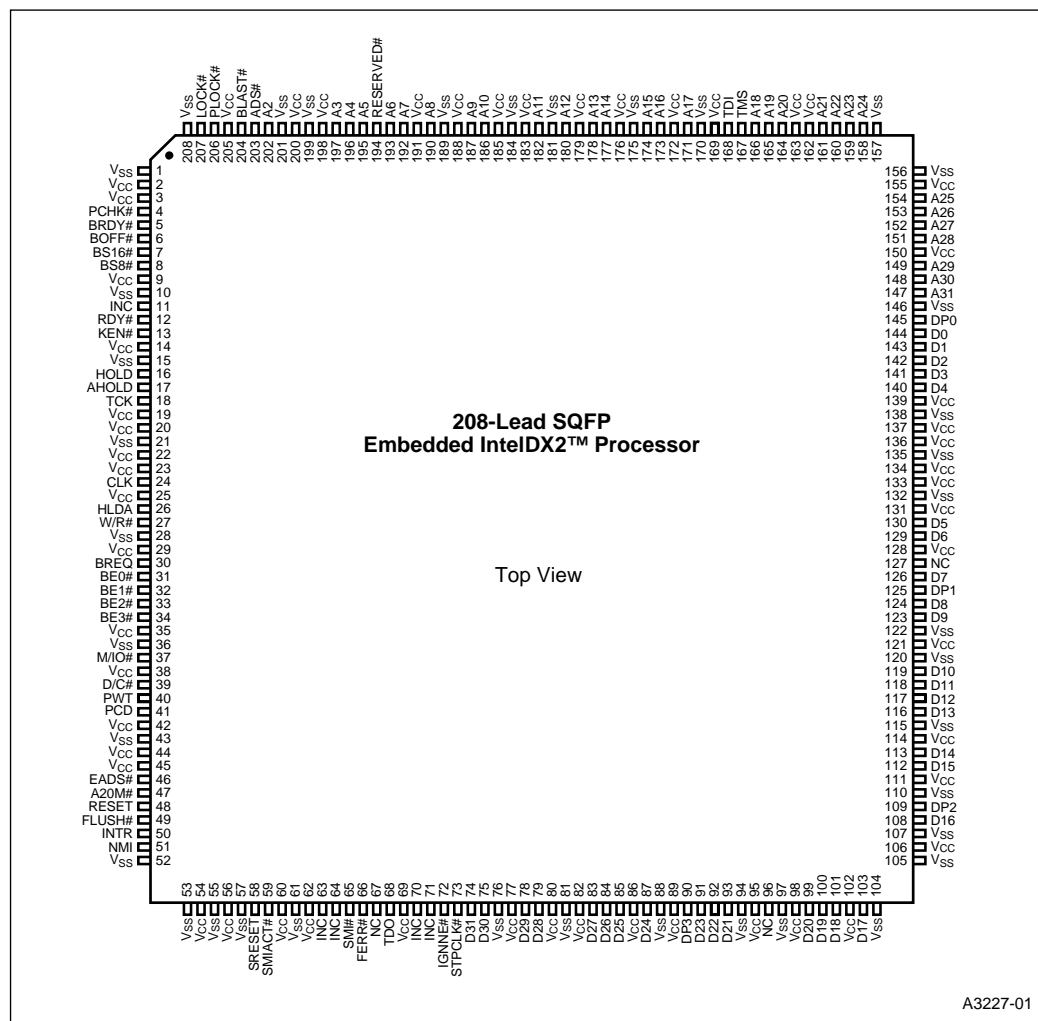

Figure 2. Package Diagram for 208-Lead SQFP Embedded Intel®DX2™ Processor
- Figure 2, Package Diagram for 208-Lead SQFP Embedded IntelDX2™ Processor (pg. 4)